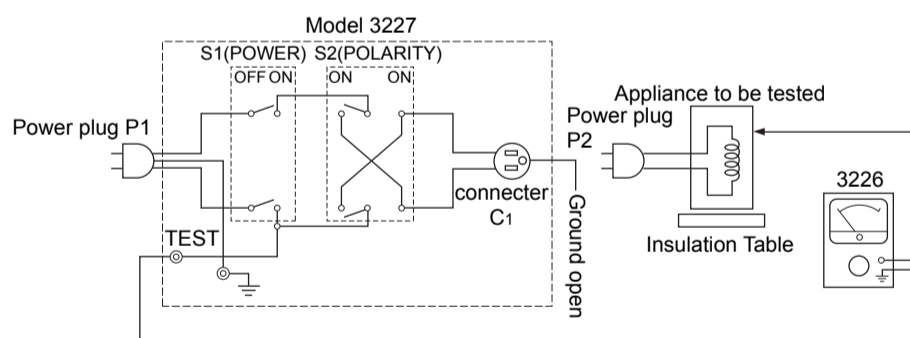

Fig. 2 Connection Diagram
3. Connect the "INPUT" terminal (H) of Model 3226 to either of the connector C1 of Model 3227, and measure the power voltage to check that the voltage is as rated. (If the polarity is opposite, the meter pointer will be zero; in this case use switch S2 to change the polarity.)
4. Open switch S1, and connect all the simultaneously accessible exposed conductive surfaces of the to-be-tested appliance together to the "INPUT" terminal (H) of Model 3226.
12. Start operating the appliance. When the appliance has reached its steady operating status, measure its leakage current. When not using the Model 3227 Test Box, compose a circuit similar to that shown in Figure 2 and measure.